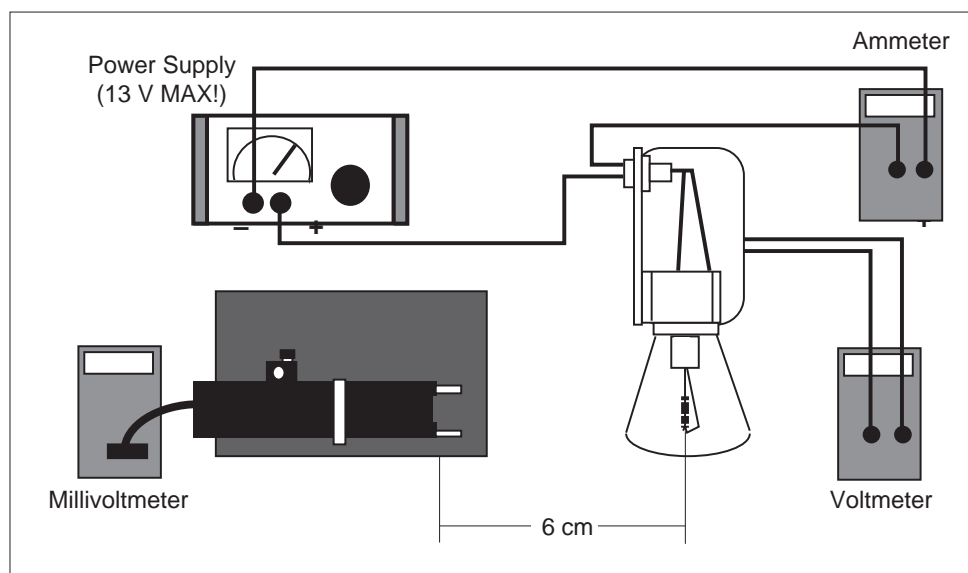

Figure 3.1 Equipment Setup
- ① **BEFORE TURNING ON THE LAMP**, measure T_{ref} , the room temperature in degrees Kelvin, ($K = ^\circ\text{C} + 273$) and R_{ref} , the resistance of the filament of the Stefan-Boltzmann Lamp at room temperature. Enter your results in the spaces on the following page.
- ② Set up the equipment as shown in Figure 3.1. The voltmeter should be connected directly to the binding posts of the Stefan-Boltzmann Lamp. The Sensor should be at the same height as the filament, with the front face of the Sensor approximately 6 cm away from the filament. The entrance angle of the thermopile should include no close objects other than the lamp.
- ③ Turn on the power supply. Set the voltage, V, to each of the settings listed in Table 3.1 on the following page. At each voltage setting, record I, the ammeter reading, and Rad, the reading on the millivoltmeter.